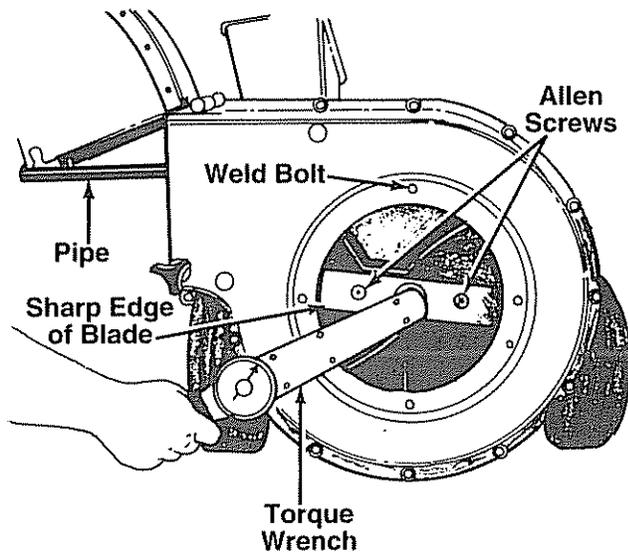

FIGURE 20.—Model 247.797853 Shown
- Lower the hopper assembly. Block up the housing. See figure 20.